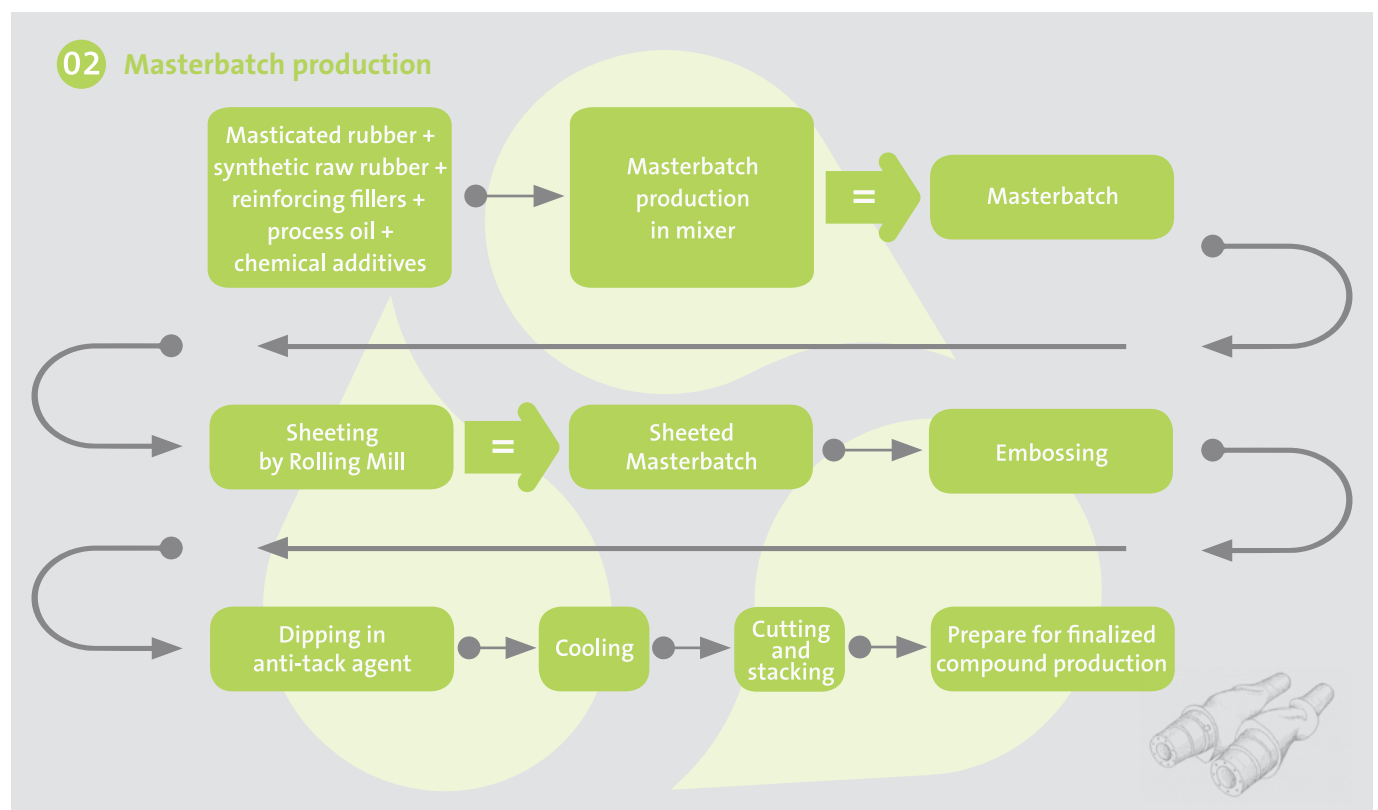

Figure 5: Masterbatch production – Detailed steps
The two-stage mixing process starts with the production of the masterbatch: a crucial step in the mixing process, preferably operated with the Banbury (see figure 5). This is where all compounding ingredients except for the vulcanizing agent are mixed. **Special attention has to be paid on the sequence of ingredient addition and the subsequent mixing times.** In a first step, masticated natural rubber (NR) is mixed with synthetic rubber (styrene-butadiene rubber, SBR) to create a uniform rubber blend. Due to the natural rubber's properties obtained through mastication, the rubber blend can be optimally mixed with all the fillers and chemicals required for the desired physical properties. Carbon black and process oil are added in a second step and after the set mixing time, fillers and chemicals are released into the chamber. After every addition of an ingredient, the hopper door is closed again and the material is pressed into the chamber by the ram, where it is then mixed under accurate surveillance of temperature development and rotation forces.